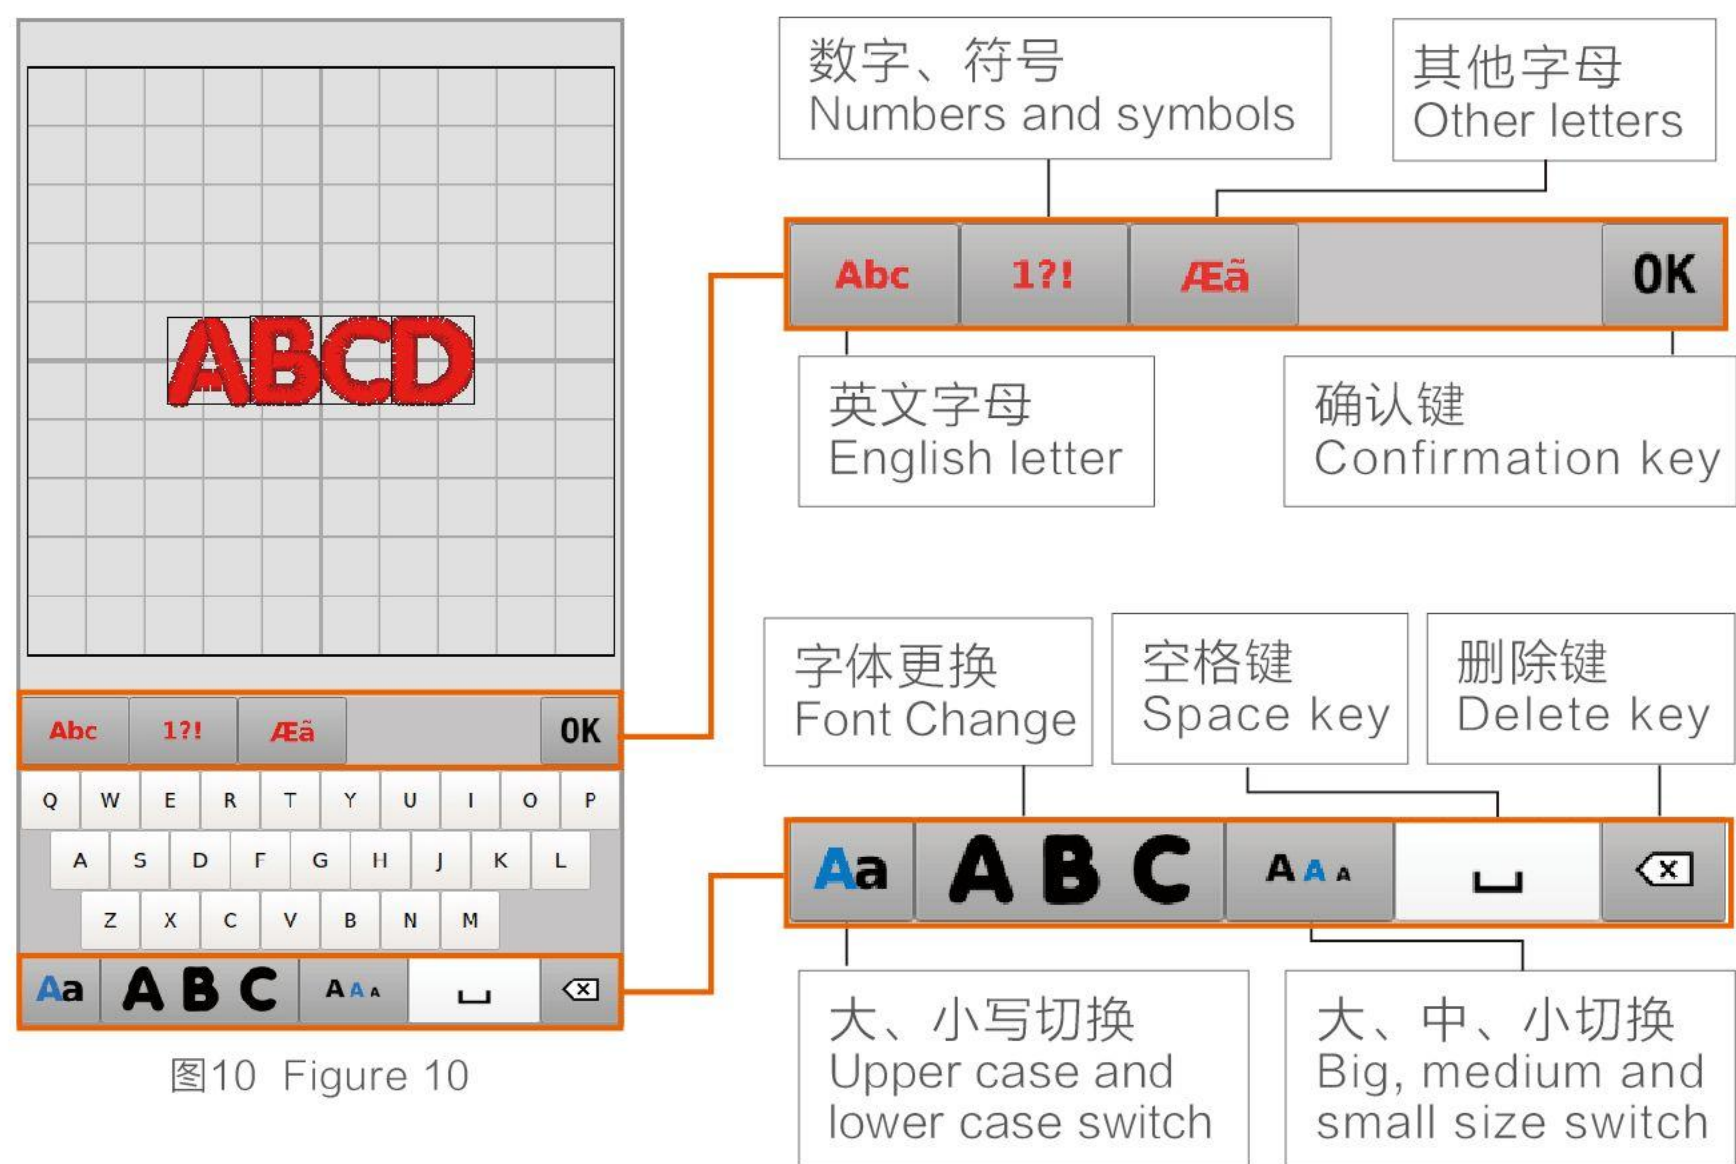

图10 Figure 10
② 点击八种字体的其中一个，进入图10界面，输入字母、数字、符号等，按确认
Click one of the eight fonts to enter the interface in Figure10,enter letters, numbers, symbols, etc., and press confirmation.